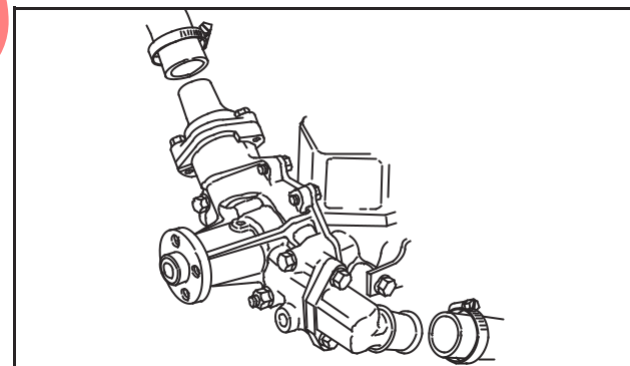

Fig. 8 – Remove Hoses
1. Disconnect radiator hoses, Fig. 8.